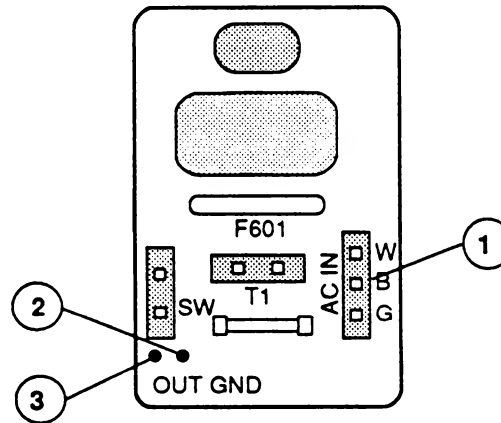

FIGURE 6
Locate the AC IN connector pins on the line filter board (Figure 6, #1).
- b) On the component side of the new filter board, locate the two solder points above the marking "OUT GND" (Figure 6, #2 and #3). Desolder to remove any solder present at either solder point.
- c) Solder the green AC IN ground wire to the solder point (Figure 6, #3) above the marking "OUT GND" on the filter board.
2. Locate the green ground wire that you desoldered from the customer's filter board, and solder the wire to the new filter board at the solder point (Figure 6, #2) above the marking "OUT GND."